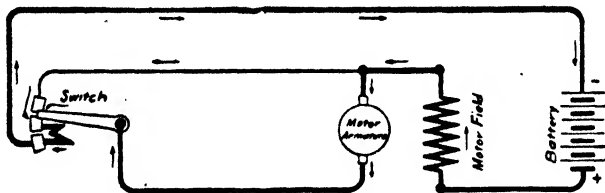

Fig. 235. Wiring Diagram for First Part of Downward Movement of Bosch Switch Pedal
*Starting Switch.* There are two contacts on the starting switch, the first sending only a small amount of current through the starting motor, this being just sufficient to pull the armature into center and engage the gears, when a further movement of the switch sends the full current from the battery through the starting motor. This progressive movement of the switch and the two circuits between the battery and starting motor are shown in Figs. 235 and 236. It will be noted that the first movement of the switch throws the field of the starter in shunt with its armature, thus causing it to revolve slowly, while the further movement of the switch places